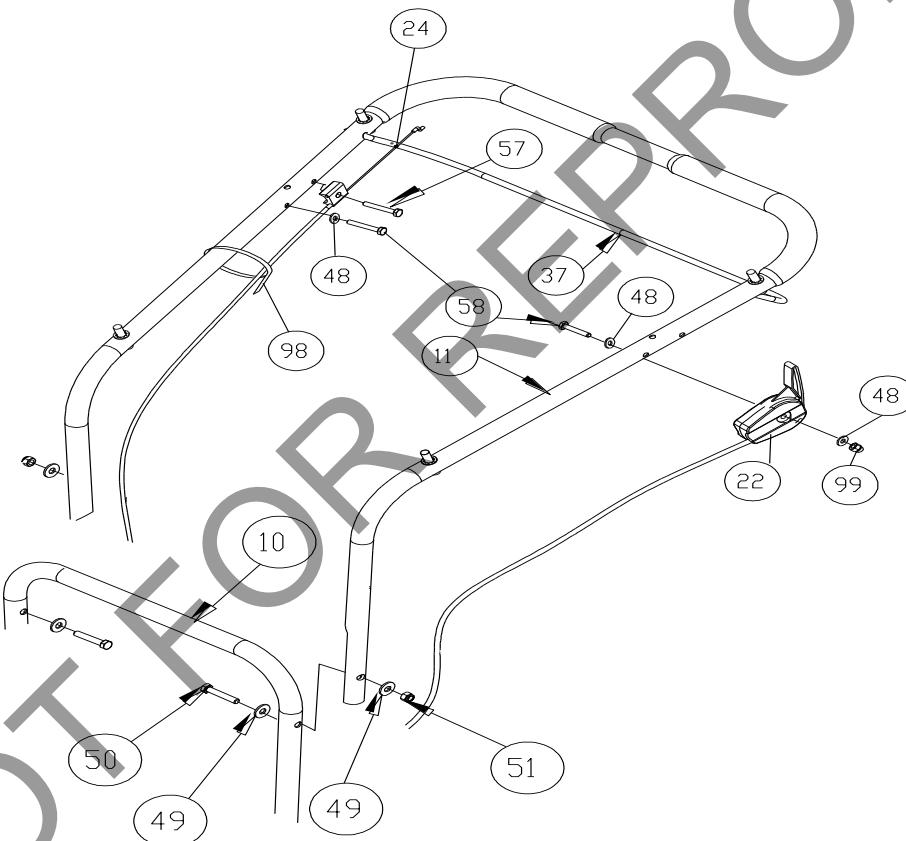
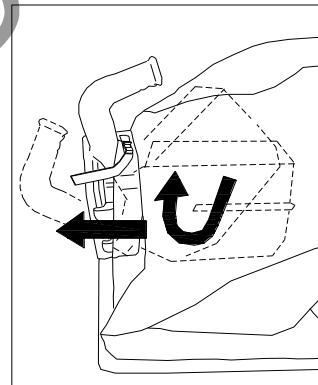

Fig. 1
Fig. 2
1. **ASSEMBLE** the upper handle (item 11), with the hardware from the parts bag (items 50, 49, and 51) to the lower handle (item 10). Tighten the hardware securely. (See *Fig. 1*.)
2. **ATTACH** the throttle lever (item 22) to the handle (Left hand side for Honda. Right side for Briggs and Stratton.) with the hardware from the parts bag (items 58, 48, and 99). Secure the cable with the Ty-Wrap (item 98).
3. **ATTACH** the clutch cable (item 24) to the inner right side of the handle with the hardware (items 99, 48, and 57). Then attach the end of the cable to the bail. After it is attached, check to make sure it is functioning properly.
4. **UNFOLD** the debris bag (item 21) and fasten bag neck to bag quick disconnect (item 12). Attach firmly to housing exhaust (item 1). (See *Fig. 2* and *3*.)
5. **ATTACH** bag to four posts (item 13), preassembled to upper handle.